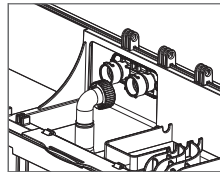

Figure 38: Connecting the chiller pump bayonet
4. Insert the accessory bracket into the window in the frame by maneuvering it as shown in Fig. 38 making sure that the pump cord is positioned in the recess provided for it.